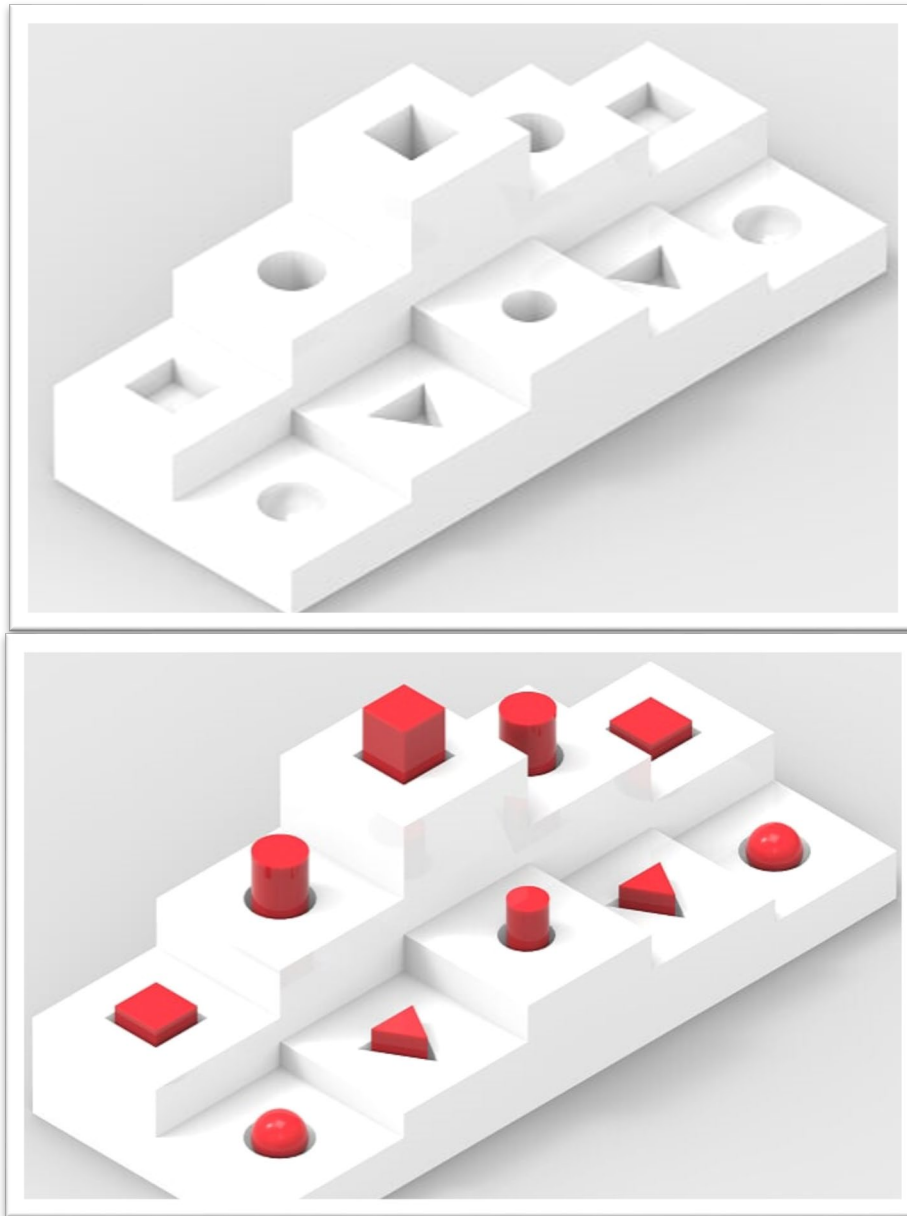
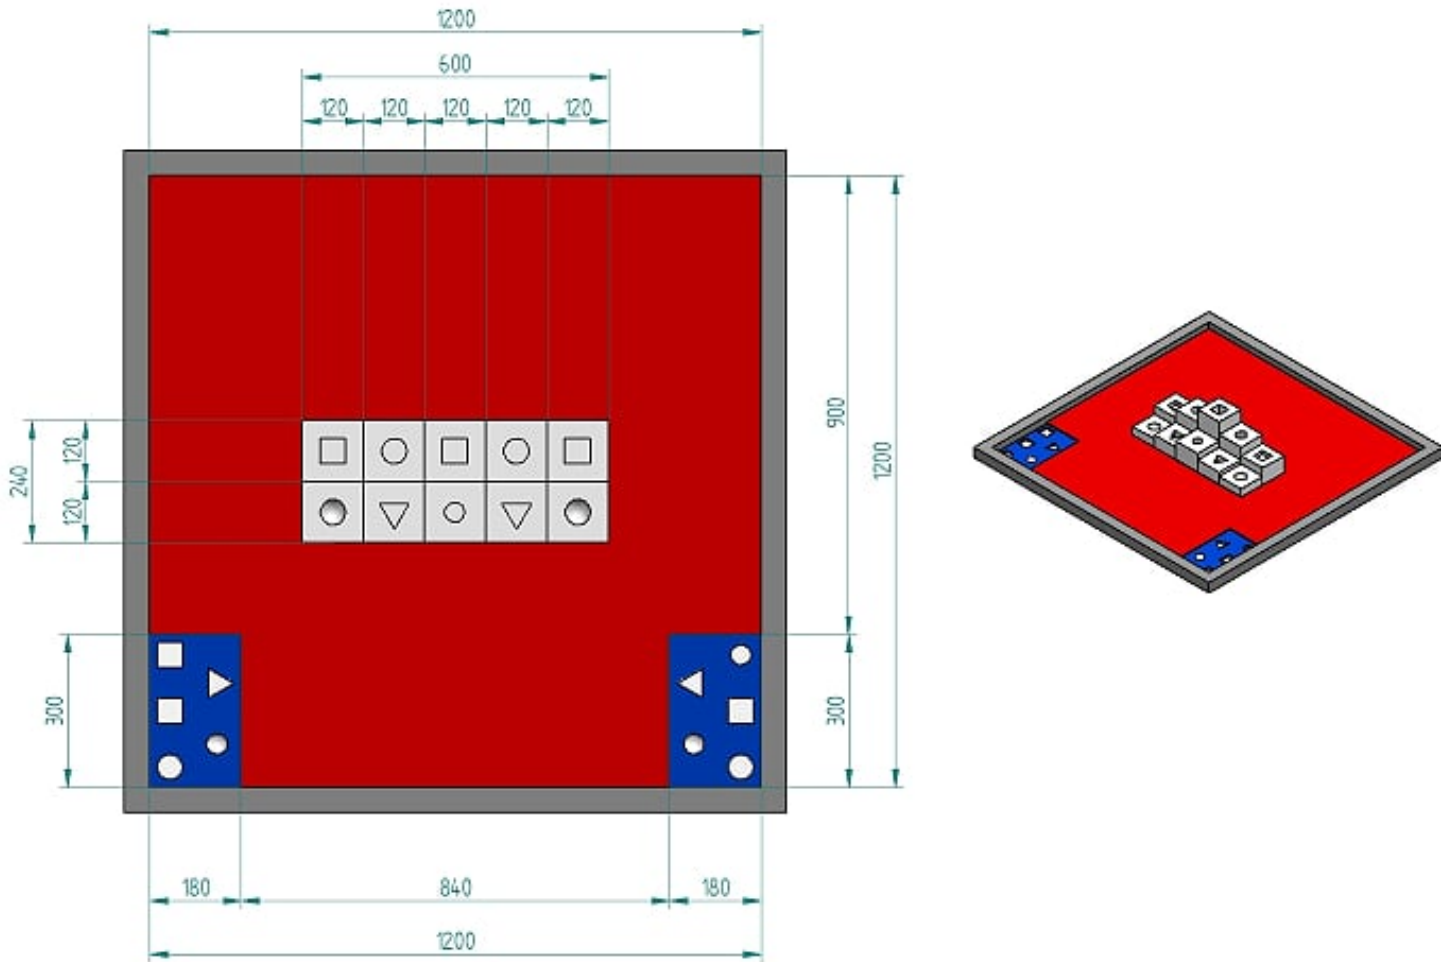

Figure 2- Platform and objects
Figure 3- Location of Platform
14) Robotic arm picks and places various objects (made by PLA plastic) to the platform which is shown at figure 2. Their dimensions are given at figure 3 and figure 4.